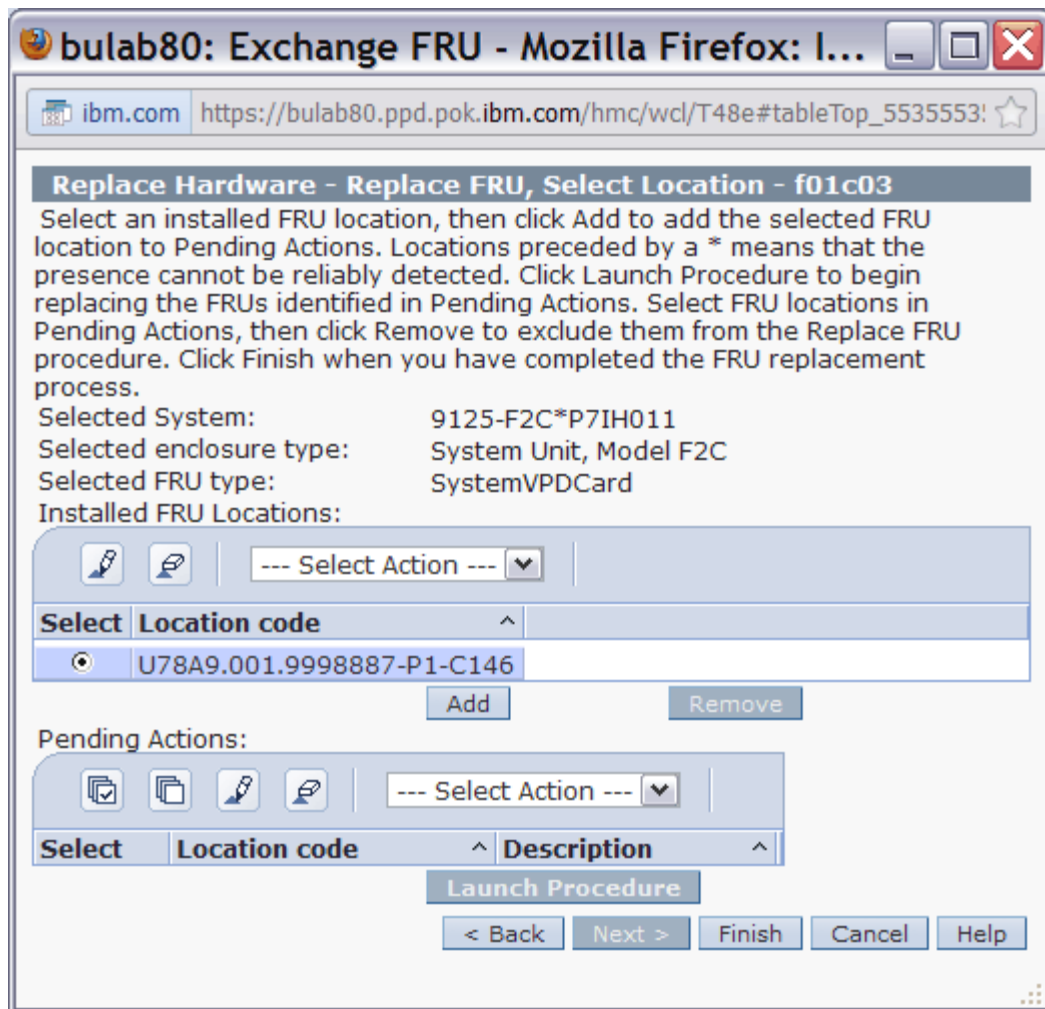

Figure 8 FRU Location Code selection
STEP 14 In the Replace **Hardware – Replace FRU, Select Location** window *select* the FRU Location code to be serviced then *click* the **Add** button. See Figure 8.